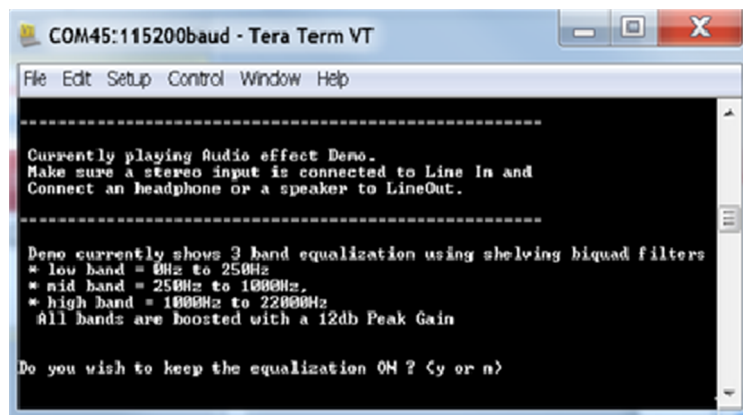

Figure 20. Serial Output Log From the Demo Software
4. When running the demo, users can hear the audio playback from the source boosted by 12 db, and Figure 20 shows the user console observed on the UART serial terminal.